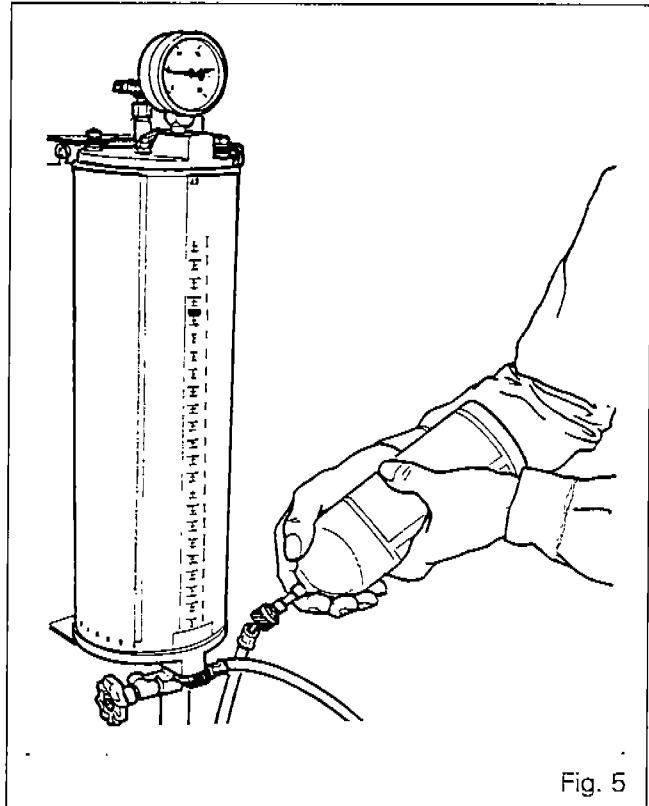

Fig. 5
1. Instructions for filling the charging cylinder from the Freon gas bottle (Fig. 5)